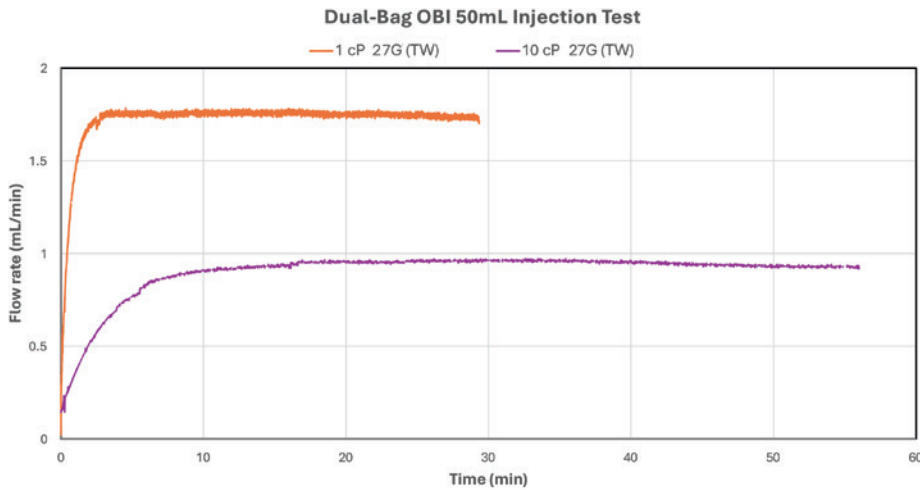

Figure 4: Dual-bag OBI - consistent flow rate over time delivering 50 mL deionised water and 10 cP solution with 27G (TW) needle.
low power input, flow rates ranged from 0.63 mL/min (79 minutes with 10 cP solution and a 30G needle) to 1.94 mL/min (26 minutes with 1 cP solution and 26G (TW) needle) respectively. As shown in Figure 4, the flow rates remained consistent throughout the injection duration for both 1 cP deionised water and 10 cP solutions using 27G (TW) needle.